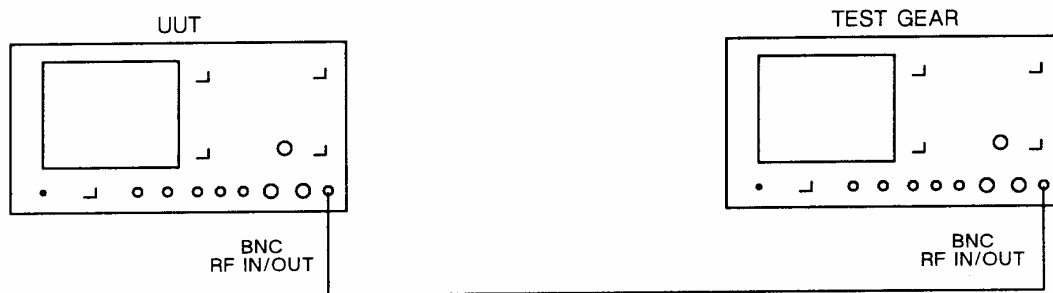

Fig. 5-1-18 Test equipment connections for Selcall tones performance checks
- (1) Connect the equipment as shown in Fig. 5-1-18.